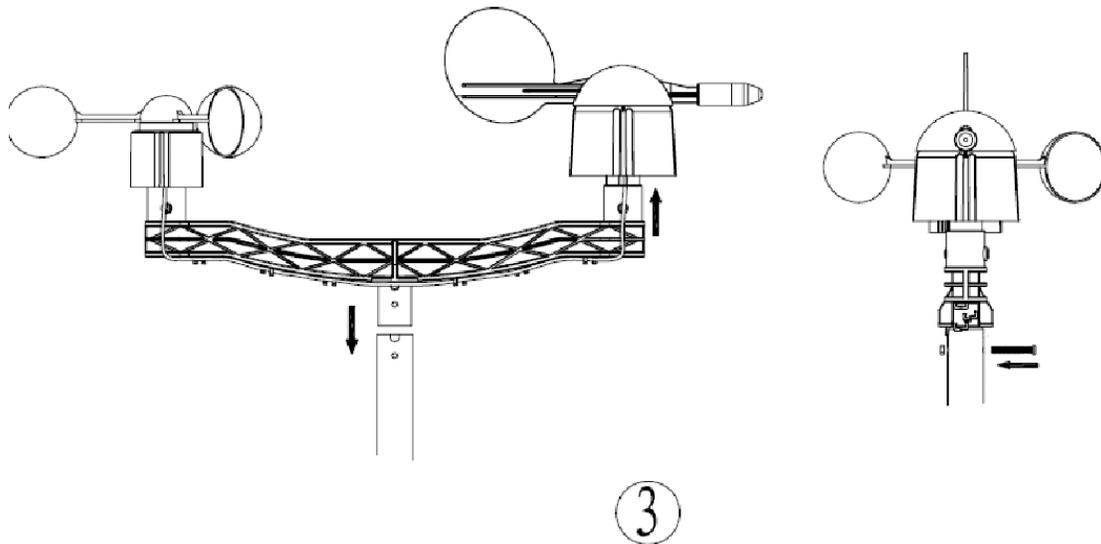

Figure 3
3. Connect the anemometer assembly to the top mounting pole, align the holes, and fasten with short set screw (optional) and long bolt and nut. Tighten with precision screwdriver while securing the nut with pliers, as shown in Figure 3.